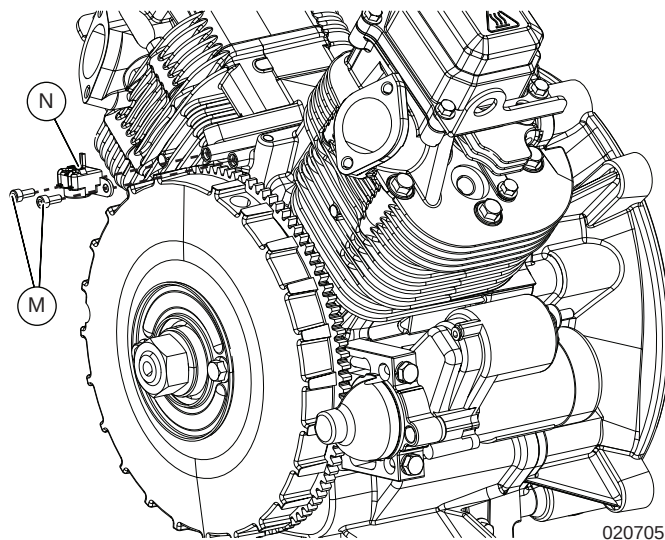

Figure 7-10. Install Crankshaft Position Sensor
1. See Figure 7-10. Install crankshaft position sensor (N) using fasteners (M).